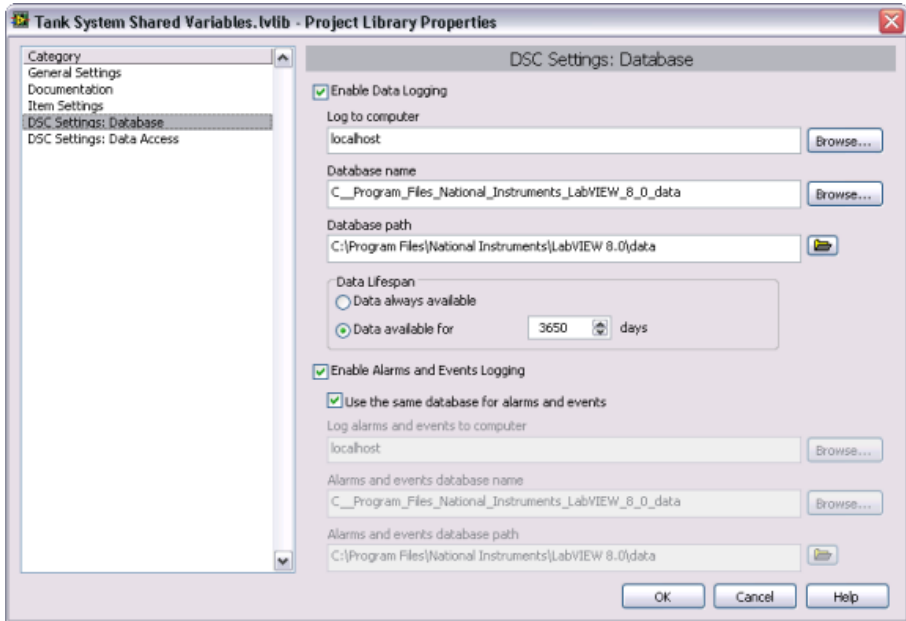

Figure 2. DSC Settings: Database Page of the Project Library Properties Dialog Box
5. Verify that the options in the **DSC Settings: Database** page appear as shown in Figure 2.